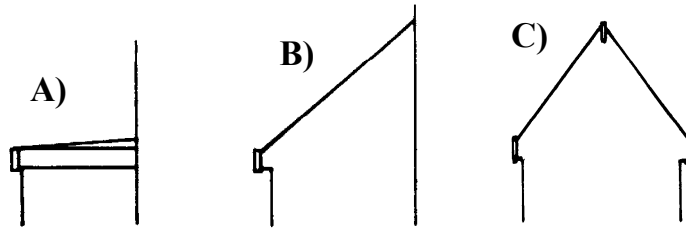

Fig.12
37. Name the types of roof illustrated in Fig. 12.